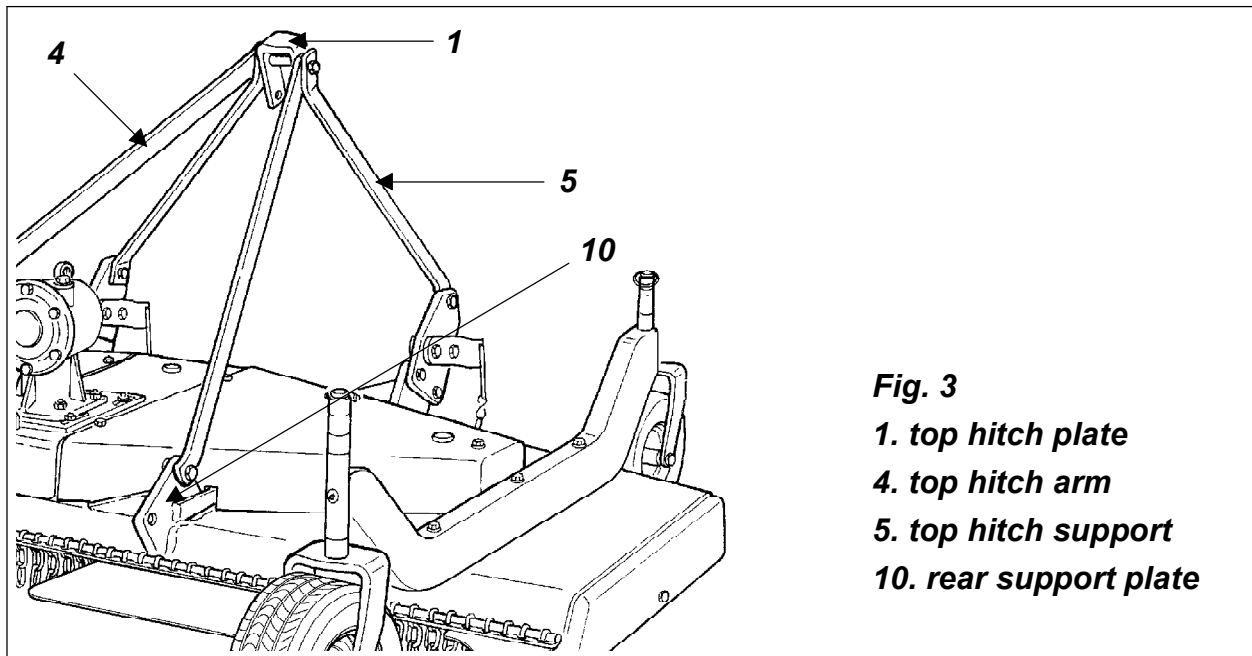

Fig. 3
7. Bolt up the top hitch arms (see #4, fig. 2 & 3) to the **outside** of the rear support plates (see #10, fig. 3) on the rear of the mower.